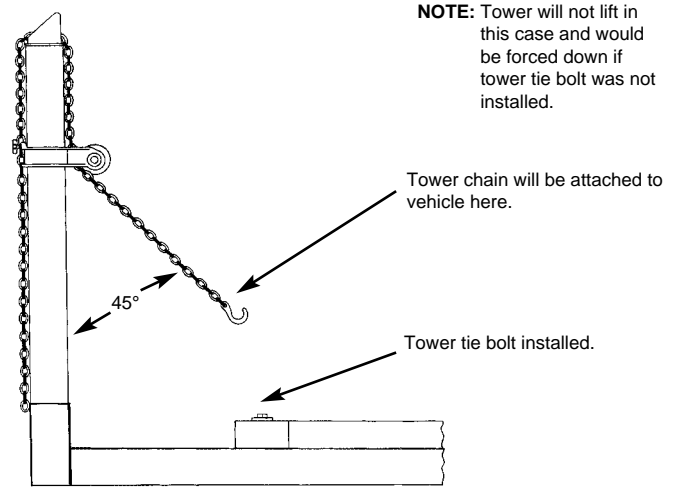

Figure 23
1. Tower does not lift up firmly against underside of mainframe when making a pull, for example, when pulling upward at 45 degree angle or less. (See Figure 23.)